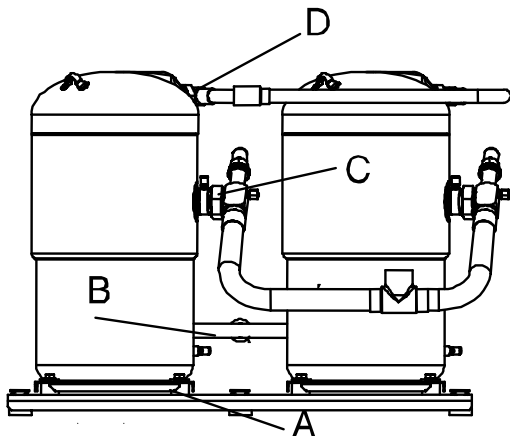

Fig. 6: Tightening positions
- 1 Mount both compressors on the rails according to torque for M10 (see Fig. 6).
- 5 Tighten the suction and discharge Rotalock according to the torque (see Fig. 6).
- 7 Remove both sight glasses. Position adapters from gas/oil equalization line with teflon gasket. Tighten according to torque (see Fig. 6).